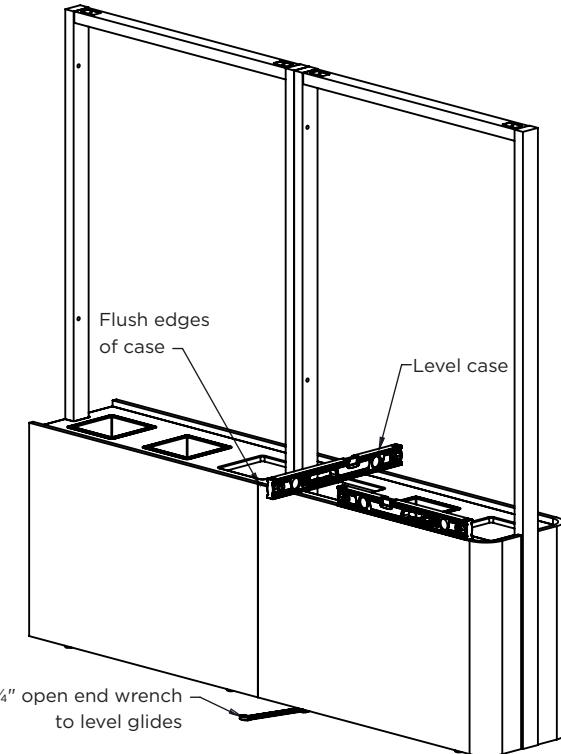

Figure 1B
2. Bring in the adjacent ganging unit and position in location. Using the glides level the unit and align the planter surface with the previous leveled unit. Ensure the case edges are flush all around. (**Figure 1B**)